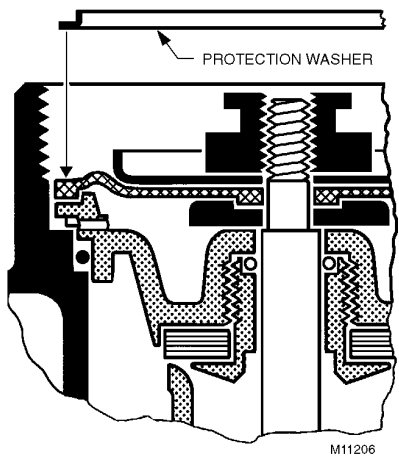

Fig. 6. Replacing Protection Washer.
11. Replace the protection washer with the lip up (away from the valve body). See Fig. 6.